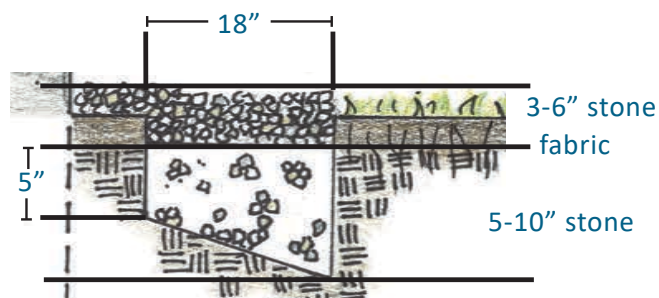

Figure 1 – Profile for well drained soils.
STEP 1 – Dig a trench at least eight inches deep between the outside and inside boundary lines marked along the perimeter of your house. Slope the bottom of the trench away from the house so that water will drain away from the foundation (Figure 1).
For Well Drained Soils: Fill the trench with stone. Fill the trench with 1/2- to 1 1/2-inch washed stone until it is about three inches below the ground level. Place a piece of non-woven geotextile fabric over the stone layer and fill the remaining three inches with additional stone (Figure 1).